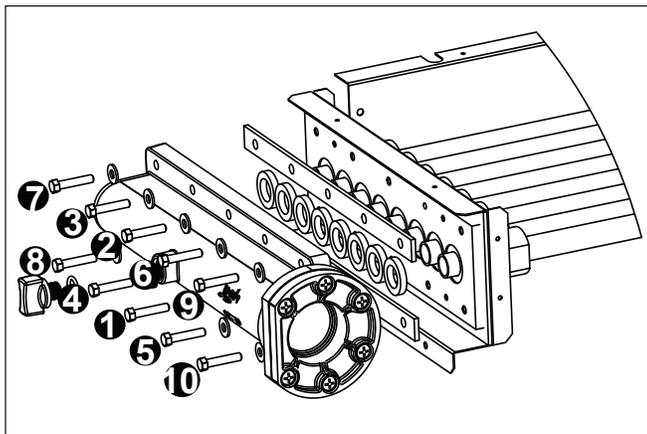

Figure 14. Header Bolt Tightening Sequence
16. Use a torque wrench to tighten the bolts on each header to four (4) foot-pounds. The bolts must be tightened in the sequence indicated in Figure 14.